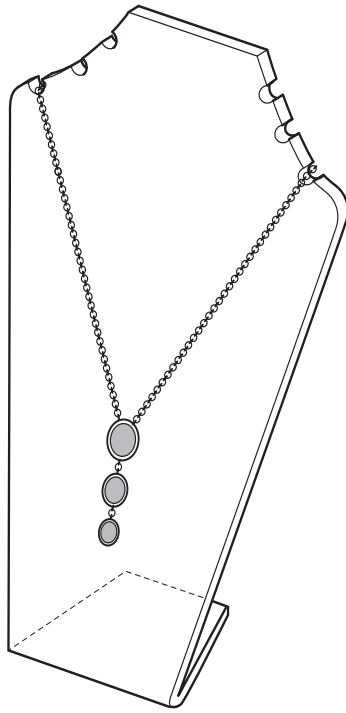

Fig. 2
- 2 Fig. 2 shows an acrylic display stand used in a jeweller's shop.